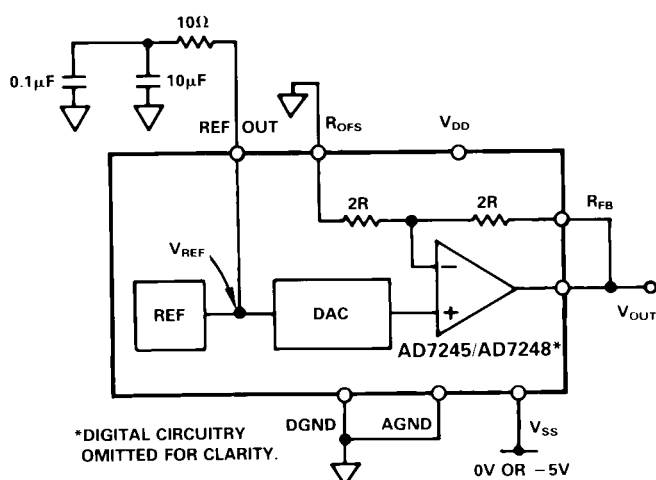

Figure 8. Unipolar (0 to +10V) Configuration
*REFERENCE DECOUPLING COMPONENTS AS PER FIGURE 8
The first of the configurations provides an output voltage range of 0V to +10V. This is achieved by connecting the bipolar offset resistor, R_{OFS} , to AGND and connecting R_{FB} to V_{OUT} . In this configuration the AD7245/AD7248 can be operated single supply ($V_{SS} = 0V = AGND$). If dual supply performance is required, a V_{SS} of -5V should be applied. Note that a V_{SS} supply more negative than -5V should not be applied to the AD7245/AD7248 when it is configured for a 0 to +10V output range. Figure 8 shows the connection diagram for unipolar operation while the table for output voltage versus the digital code in the DAC latch is shown in Table III.